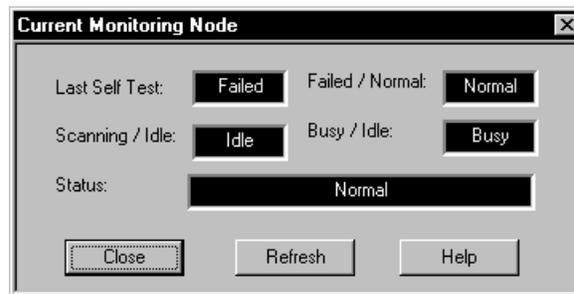

Figure 7-11. Current Monitoring Node.
**Current Monitor Control Node**—This icon brings up the Current Monitoring Node window (figure 7-11), which displays the status of the Current Monitor board.